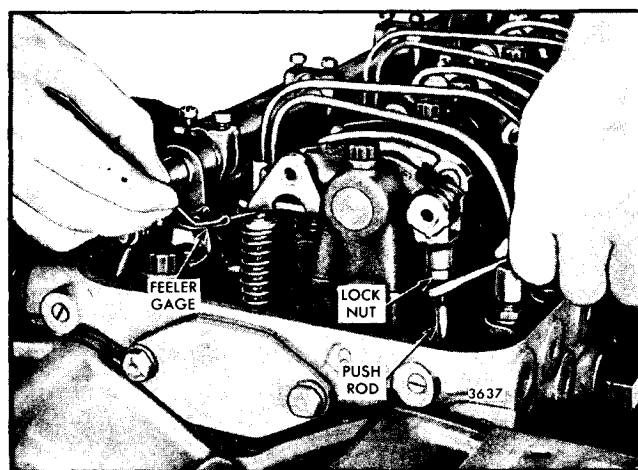

Fig. 1 - Adjusting Exhaust Valve Clearance
5. Place a .026 " feeler gage (J 9708-01) between the end of one valve stem and the rocker arm bridge (Fig. 1). Adjust the push rod to obtain a smooth pull on the feeler gage.